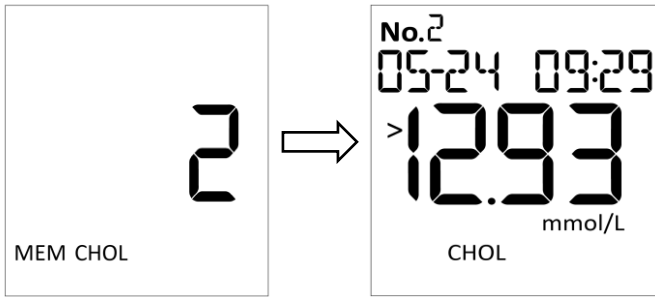

Fig 5.46
- CHOL value query interface (Ref Fig 5.46)